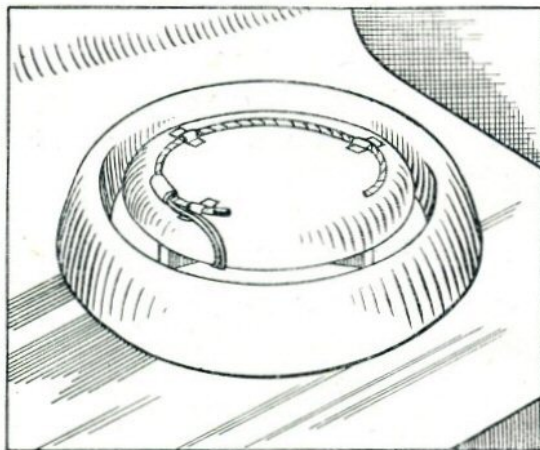

Fig. 21. Cordtex on hull ventilator.
- (iii) Each hull ventilator as Fig. 21.
NOTE.—First lock the gun in position, if a lock is provided. If a ring or press fastener studs surrounds the gun as Fig. 21, a bridge of Pressure Plastic must be built up where the fabric crosses the ring.